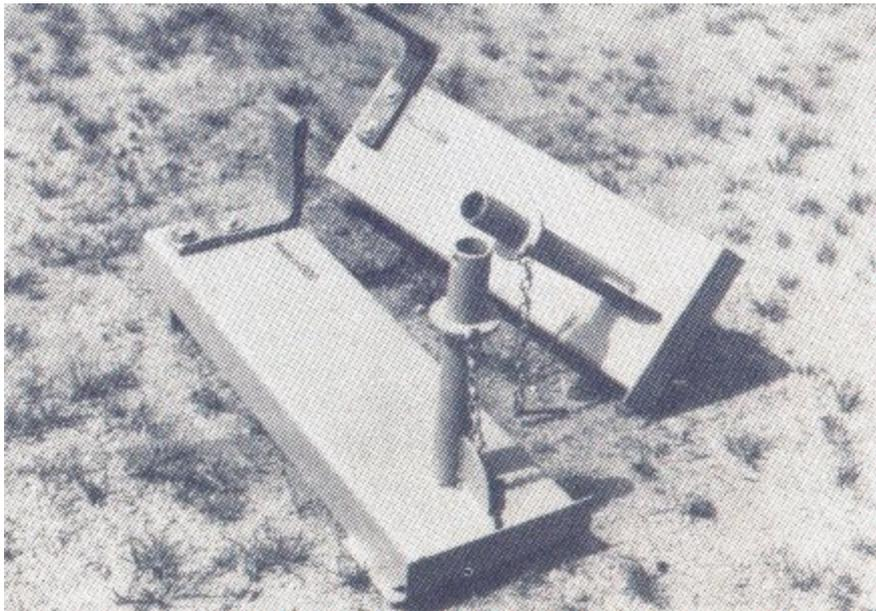

Fig. 36
11.2 The than special equipment facilitates tilting device to be gotten a längs-sided tipping over of the supporter in the garage. The figure 36 shows you the tilting device.